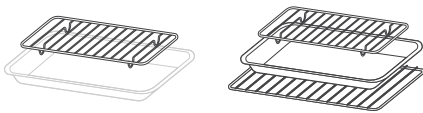

Figure 2.1
[Figure 2.1]
*See **Figure 2.1**, page 11.